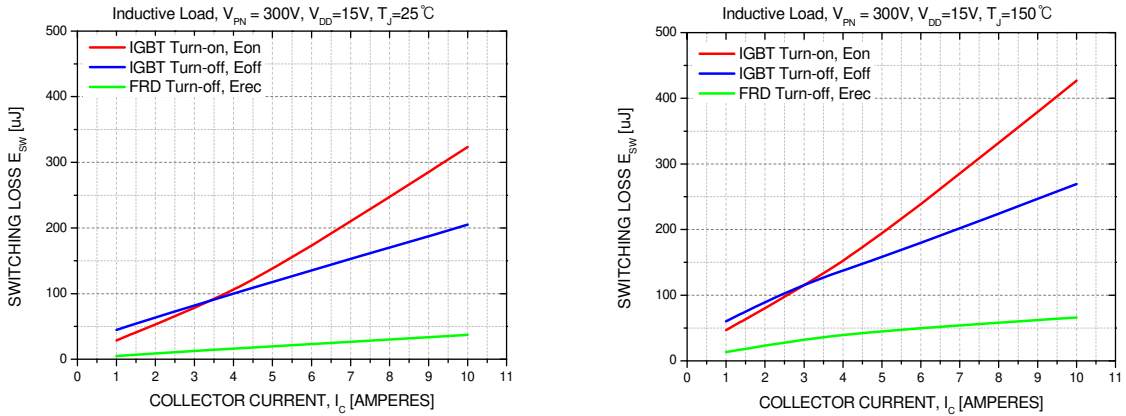

**Figure 4. Switching Time Definition**
5.  $t_{ON}$  and  $t_{OFF}$  include the propagation delay of the internal drive IC.  $t_{C(ON)}$  and  $t_{C(OFF)}$  are the switching time of IGBT itself under the given gate driving condition internally. For the detailed information, please see Figure 4.